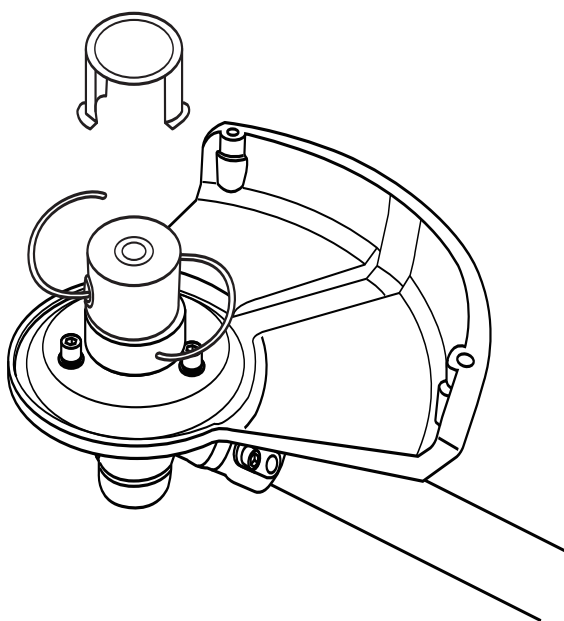

Fig. 9
4. Put the cover (1) back (Fig. 9).